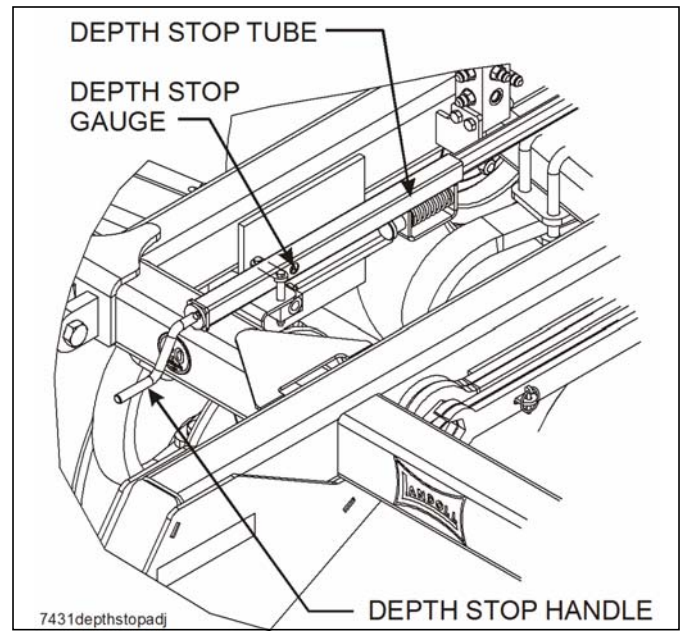

Figure 4-18: Depth Stop Adjustment (Manual)
1. Adjust the depth stop by turning the handle in (clockwise) to increase operating depth (**See Figure 4-18.**) Turn the handle out (counter-clockwise) to decrease operating depth. One turn will equal approximately $3/16$ " adjustment in depth.